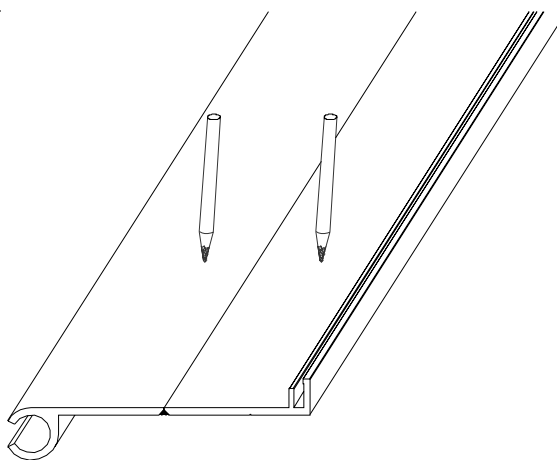

Figure 2
STEP 3. Select a section of the base member. If the anchor holes have not been predrilled in the base members at the factory, mark the locations for the anchor holes on the selected base member (see Figure 2). Standard anchor spacing is 20" O.C. with an anchor at a nominal 3" from each end of the base member. Repeat this procedure for each base member section.